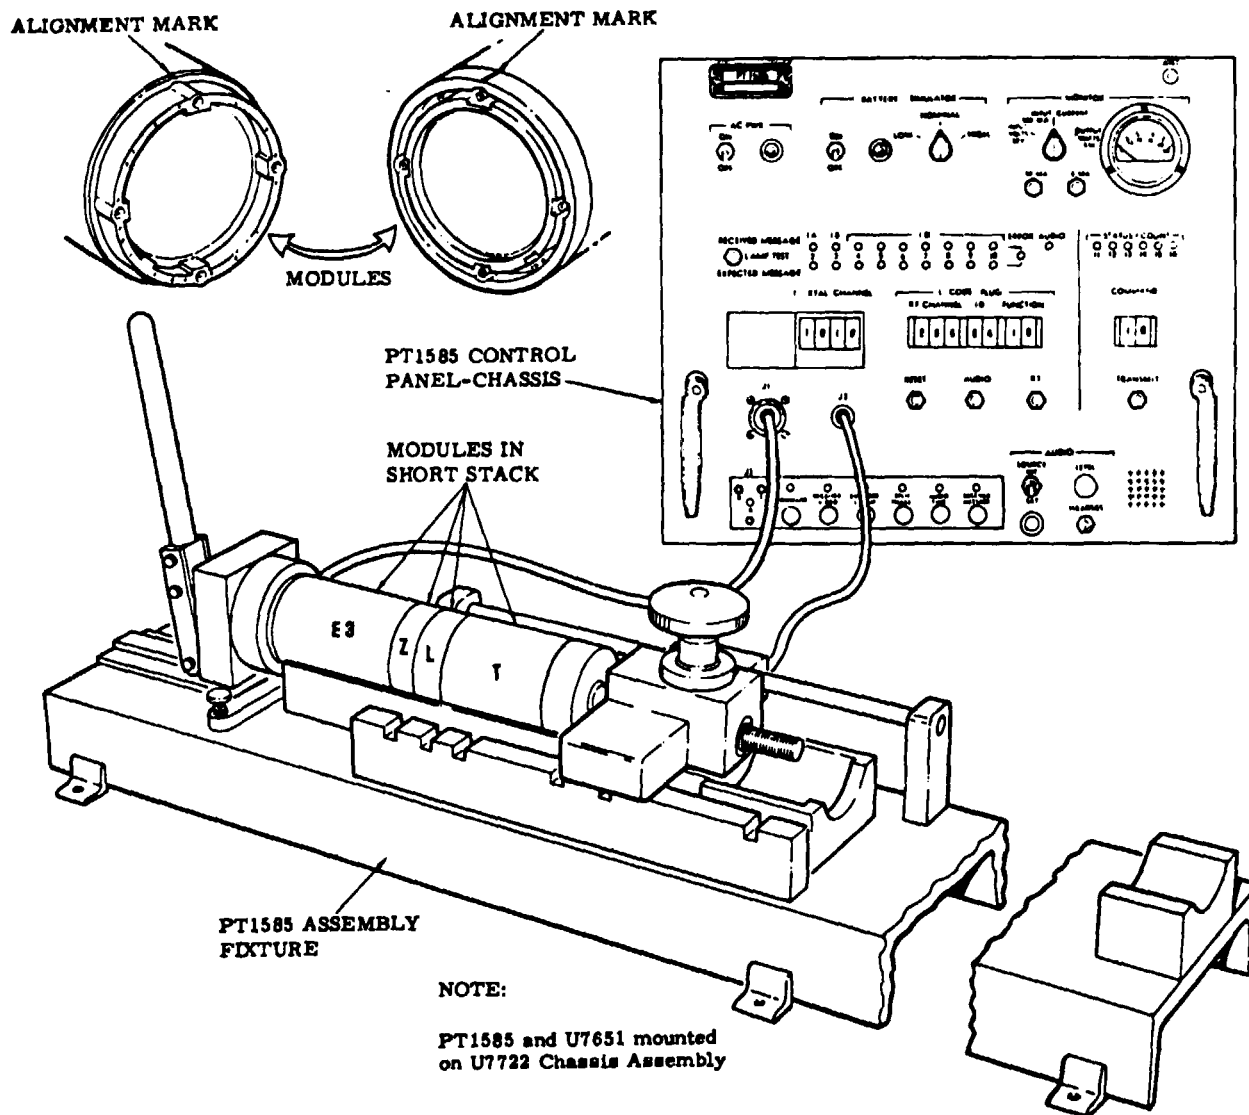

Figure 4-3. MA33/37 Short Stack Under Test
**4-19. ASSEMBLY OF MA33 OR MA37 SHORT STACK (Figure 4-3).**
d. Place remaining modules in U7651 tray one at a time in the following order: E-Z-L-T (figure 4-3). Rotate module until alignment marks on it and preceding module are aligned, then mate modules.